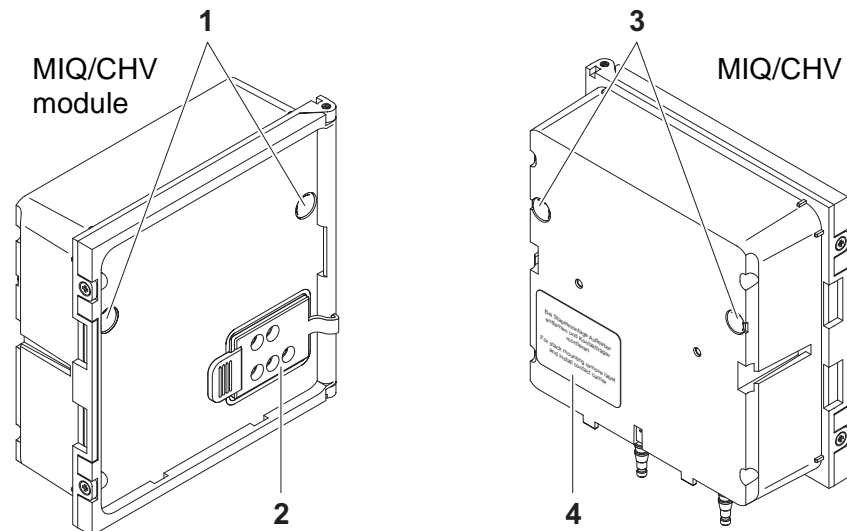

Fig. 3-1 Preparing modules for stack mounting
1	Remove the covers from the drilled mounting holes (pos. 1 and 3 in Fig. 3-1).